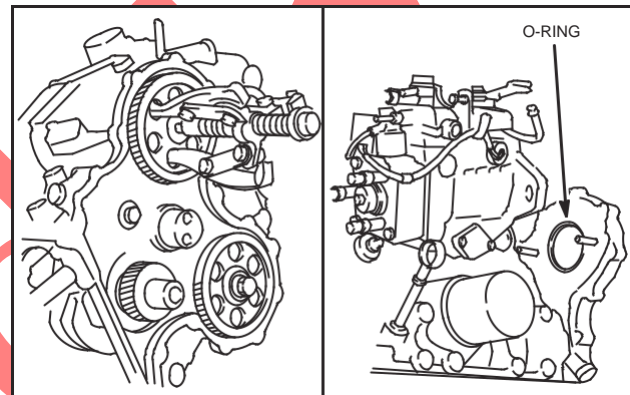

Fig. 10 – Removing Injector Pump
1. Remove injector pump timing gear with a three jaw puller, Fig. 10.